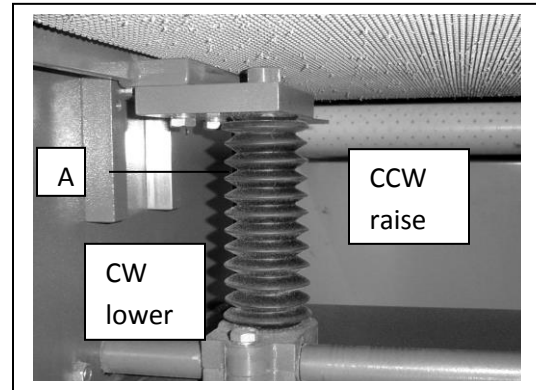

Figure 16
3. At the area of the table that needs adjustment, loosen the screws (A, Figure 16) on the bracket of the lift screw, and rotate the lift screw as needed. (The lift screw is protected by the dust guard below.) Turn the lift screw clockwise to lower the table in that area, or counterclockwise to raise the table (see Figure 16).
4. Tighten screws (A, Figure 16).